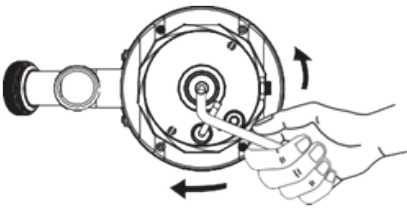

Figure 24
- 3 Insert the allen wrench in the fitting into the hexagon maintenance hole in the middle of the bottom of the machine and rotate clockwise/counterclockwise (see Figure 24) until the rotation is smooth.